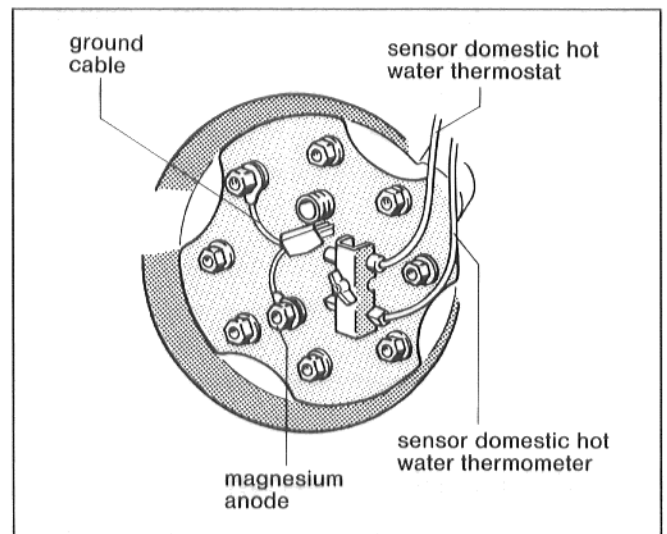

Fig. 8
- Loosen the wing-nut of the sensor fastener, insert the sensor into the mounting plate to match its geometrical shape (Fig. 8).
- Make sure that the ground cable of the magnesium anode is connected to one of the fastening screws of the inspection port lid (Fig. 8).
- Connect the plug on the ground lead with the lead from the control panel (Fig. 8).